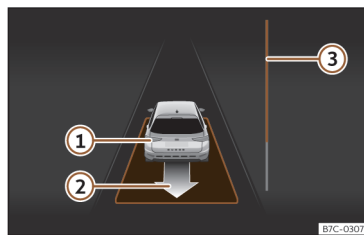

Fig. 136 On the instrument panel display: driving off from perpendicular parking.
- Reverse until the continuous ParkPilot signal sounds; **OR**: reverse until the instrument panel display shows the forward indication. The progress bar >>> Fig. 136 ③ indicates the distance to cover.
- Press the brake pedal until the parking assist system completes the steering wheel turns; **OR**: press the brake pedal until the symbol ⑤ goes out on the instrument panel screen.